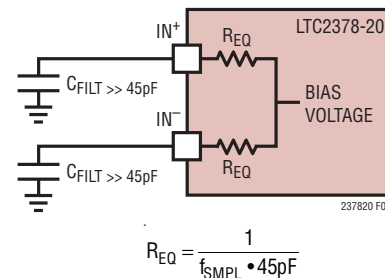

Figure 5. Equivalent Circuit for the Differential Analog Input of the LTC2378-20 at 1Msps
**Fully Averaged** – If the coupling filter capacitors ( $C_{\text{FILT}}$ ) at the ADC inputs are much larger than the ADC's sample capacitors (45pF), then the sampling glitch is greatly attenuated. The driving amplifier effectively only sees the average sampling current, which is quite small. At 1Msps, the equivalent input resistance is approximately 22k (as shown in Figure 5), a benign resistive load for most precision amplifiers. However, resistive voltage division will occur between the coupling filter's DC resistance and the ADC's equivalent (switched-capacitor) input resistance, thus producing a gain error.